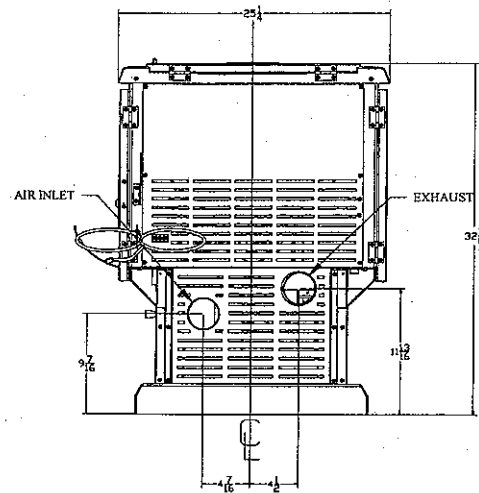
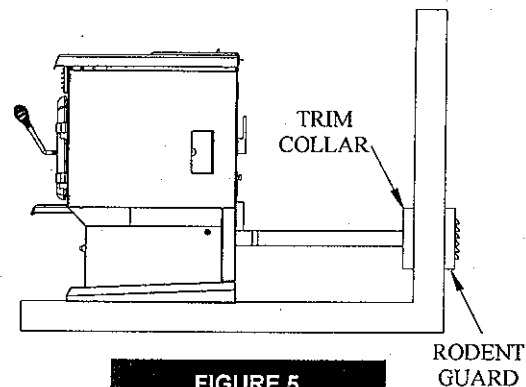

FIGURE 4
FIGURE 5
For a mobile home installation the stove must be connected to an outside source of combustion air. A 3" inside diameter metallic pipe, either flexible or rigid, may be attached to the inlet at the stove's rear (refer to figures 4, 5 & 6). A rodent guard (minimum 1/4" wire mesh) must be used at the terminus (refer to figure 5). All connections must be secured and airtight by either using the appropriately sized hose clamp and/or UL-181-AP foil tape.
2. Locate position of hole in wall; directly behind stove exhaust vent (refer to figure 4).